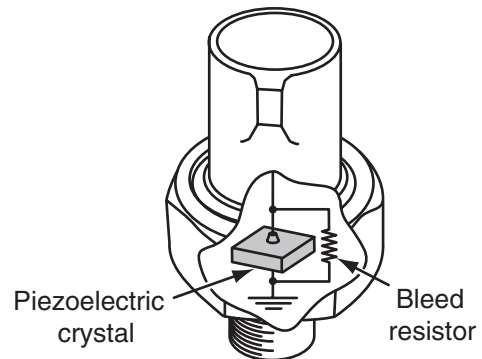

Figure 12–36 Knock sensor. © Cengage Learning 2012
The EEC IV engine applications using a knock sensor (KS) use a standard piezoelectric type (Figure 12–36). When excited by vibrations in frequency that are characteristic of detonation (knock), it sends a signal to the PCM, which can then retard spark timing advance to correct for the condition.